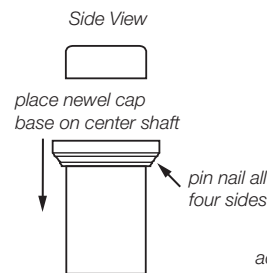

figure 11
2. Place newel cap base on top of newel center shaft and check for level. Then pin nail in place through side of newel cap base (figure 11).